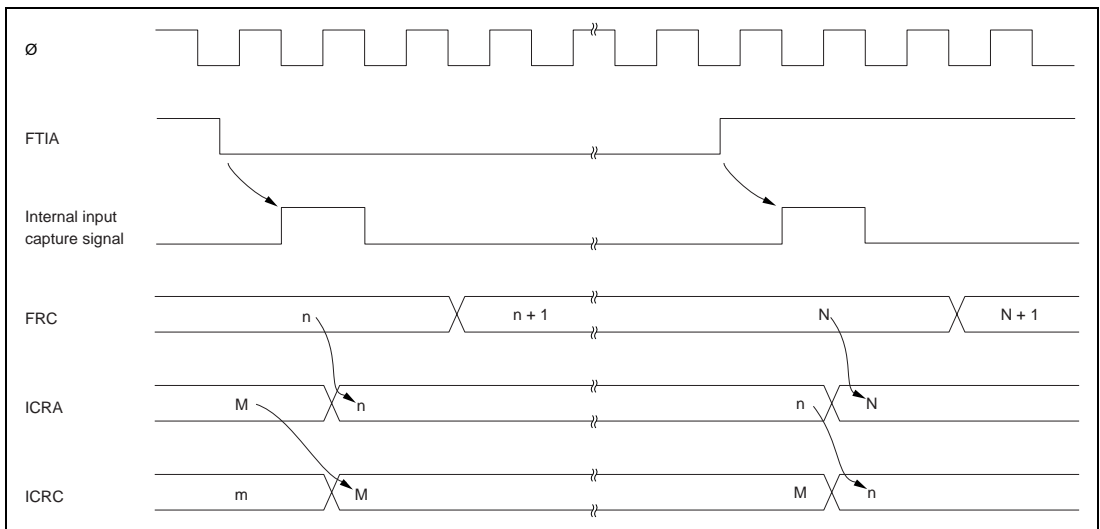

Figure 7.10 Input Capture Timing (Usual case)
(1) Input Capture Timing: An internal input capture signal is generated from the rising or falling edge of the signal at the input capture pin FTIx ($x = A, B, C, D$), as selected by the corresponding IEDGx bit in TCR. Figure 7.10 shows the usual input capture timing when the rising edge is selected (IEDGx = “1”).